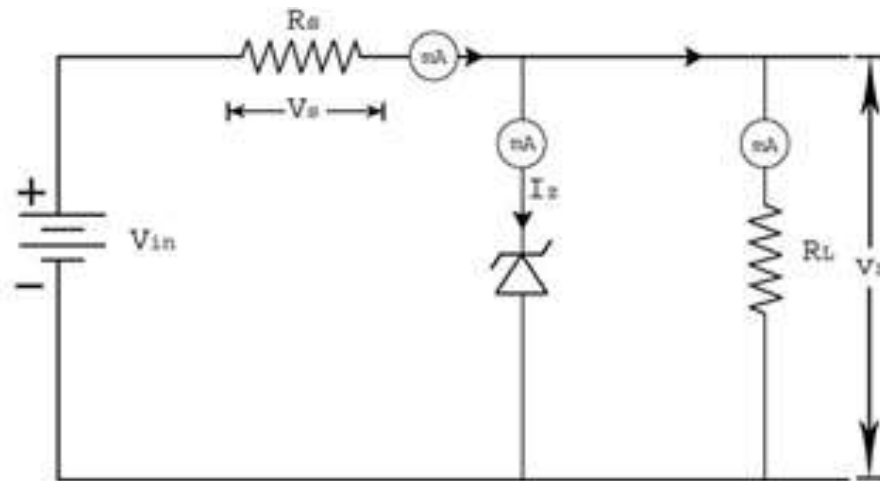

Fig 3: Zener diode shunt regulator
- ◎ The purpose of a voltage regulator is to maintain a constant voltage across a load regardless of variations in the applied input voltage and variations in the load current. A typical Zener diode shunt regulator is shown in Figure 3. The resistor is selected so that when the input voltage is at  $V_{IN(min)}$  and the load current is at  $I_{L(max)}$  that the current through the Zener diode is at least  $I_{z(min)}$ . Then for all other combinations of input voltage and load current the Zener diode conducts the excess current thus maintaining a constant voltage across the load. The Zener conducts the least current when the load current is the highest and it conducts the most current when the load current is the lowest.